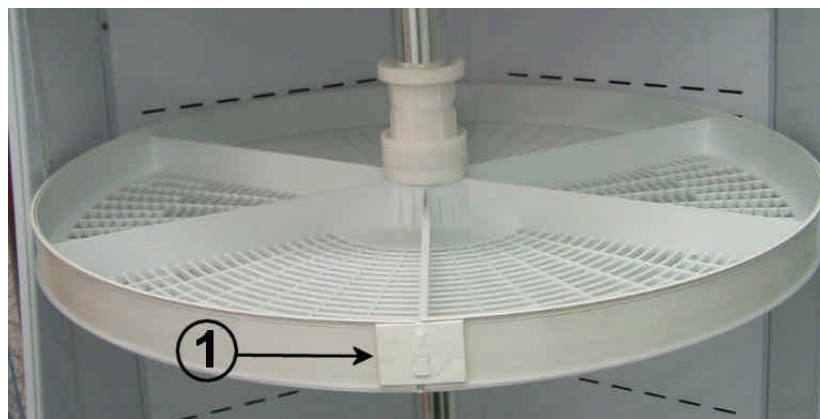
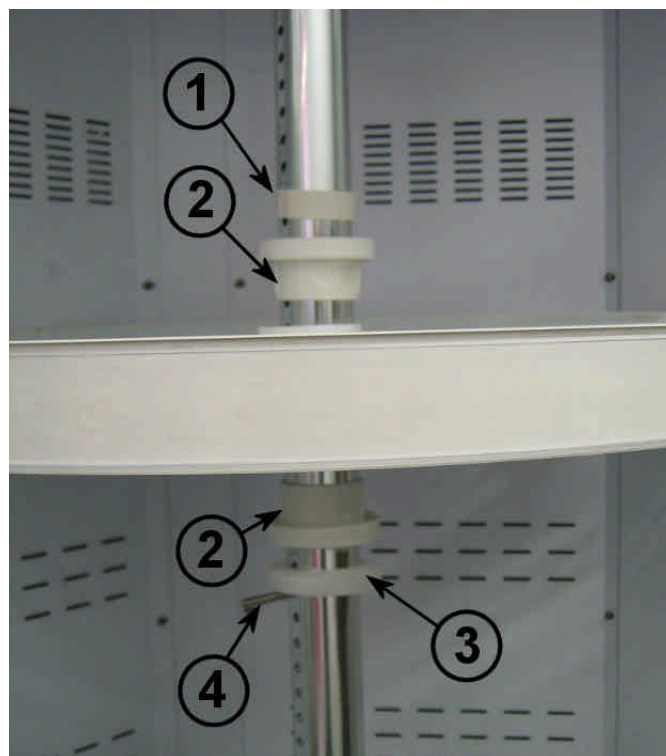

Figure 9
Figure 17
The product (cans or bottles) can be stored on round shelves, divided into 2 semicircular sections (81) and 6 dividers in total (Fig. 9); their position can be adjusted on the support shaft by the user following the procedure indicated in section 2.3.1.
Referring to the figure 17, remove the stopper (29) marked with “1”. The shelf is held in position by the 2 plastic collets (5) marked with “2” and by the support ring (8) marked with “3”. This ring is fixed at the shaft (61) by the pin (52) marked with “4”, and rotates with it. The shelf rotates as well too thanks to the friction between the collet and the ring. If for any reason the shelf is stopped, the shaft and its motor are not forced as they are free to rotate.
By the procedure nr 1, the upper and lower bushes (5) (marked with “2” in fig. 17) and the support ring (8) (marked with “3” in fig. 17) will remain mounted on the shaft, leaning on the lower shelf: this procedure will be described in the next paragraph; consecutively the instructions relative to procedure nr 2.
To replace the shelf, remove the price strip (68) and its fixing clip (19), marked with “1” in Fig. 9, and remove the nylon stopper (29) too, marked with “1” in Fig. 17, whose function is to lock the shelf axially on the shaft. Then unscrew the assembling screws of the two semicircular sections (81), indicated in fig. 19, and press vertically to separate them. To extract the shelf supports it is necessary to remove the shaft, as indicated in the following section 2.3.1.5.
2.3.1.5 SHELVES SUPPORT SHAFT (61) REMOVAL